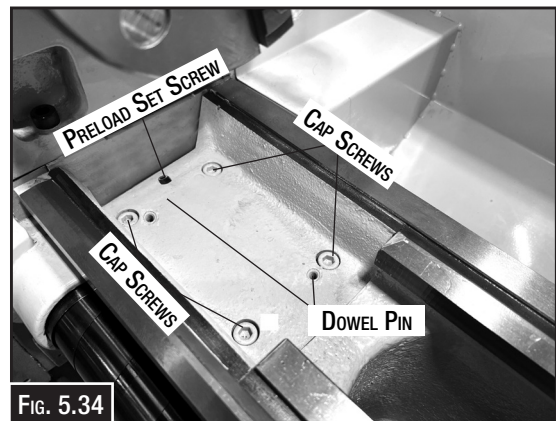

Fig. 5.34
2. Loosen the preload set screw a few turns until it no longer contacts the headstock. (Fig. 5.34)